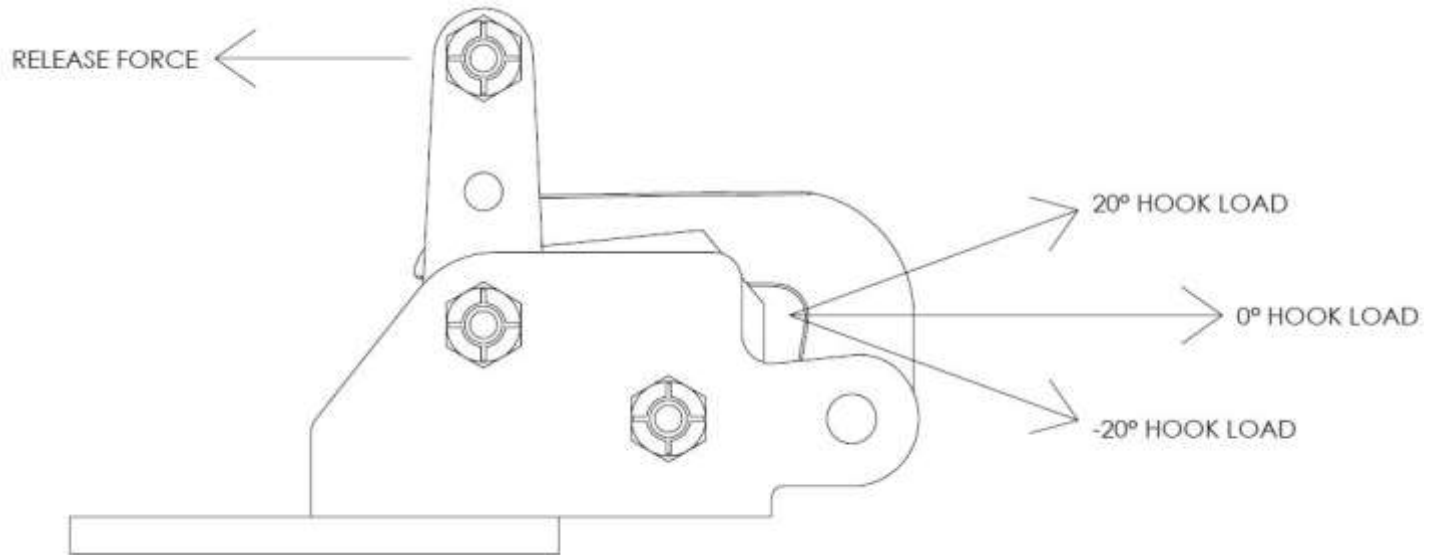

Figure 2.3: Tow Hook Tow Angles, Reference Table 2.2
- (1) Determine the limit load of the tow hook installation as per FAA Advisory Circular AC43.13-2B, Section 804d "Glider Tow Hitch Load Testing".
- (2) Find the row on Table 2.2, seen below, that lists the hook load equal to the limit load. From this row, determine the highest required release force required. This number is the required test force. Reference Figure 2.3 for the corresponding tow angles.